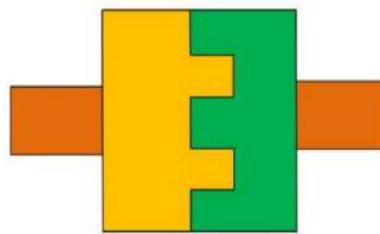

Fig.5.2: Square jaw clutch
- Positive engagement (no slip) due to presence of teeth. (Refer figure 5.2 and 5.3)